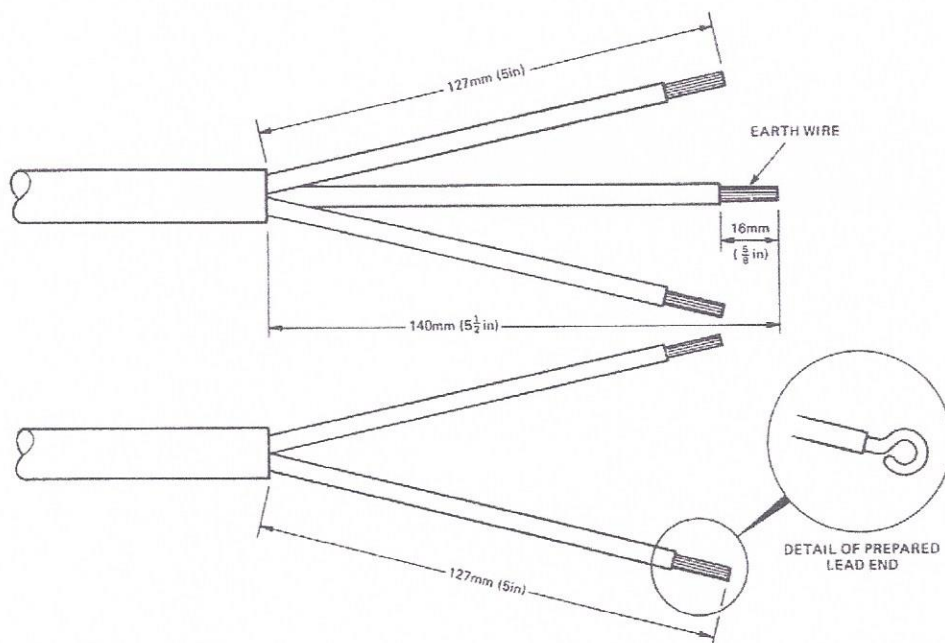

Figure 1 Preparing the Hammer Leads
- 3.1.8 Prepare the new Cord by cutting back the outer covering to the dimensions given in Figure 1. Bare each lead end for a distance of 16mm (5/8"), solder it and form it into a hook to fit over a 3 B.A. or M4 thread, as shown in Figure 1.